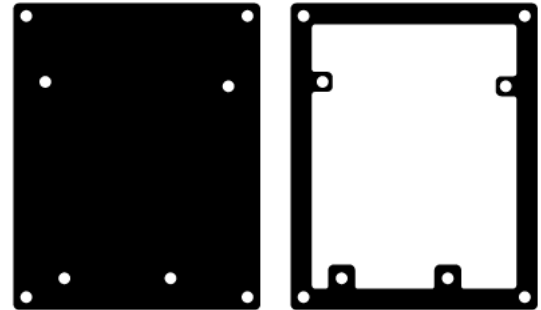

Figure 1: Bottom layer (left) and spacer layer (right).
- 2) Take the bottom solid layer and put the spacer layer on top of it (Figure 1). Put Arduino Uno R3 on top of the spacer layer and fasten it to both layers using three M3×10 screws. One of the fixing places cannot be used because Arduino board does not have enough space for the screw head.